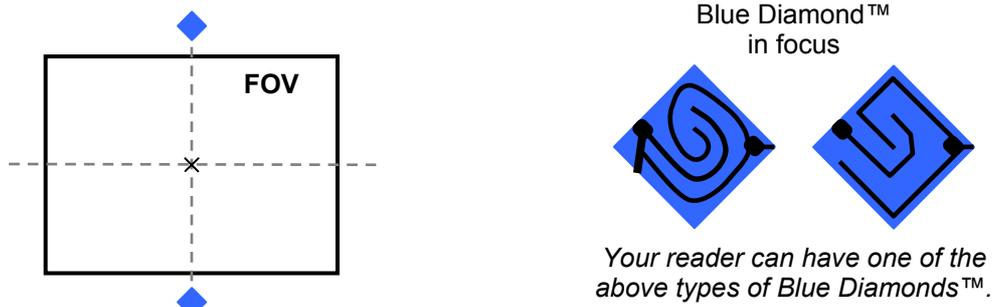

Figure 18 – Focus Function Using Blue Diamonds™
6. Adjust the Focus ring until the Blue Diamonds™ are perfectly in focus, see Figure 18.